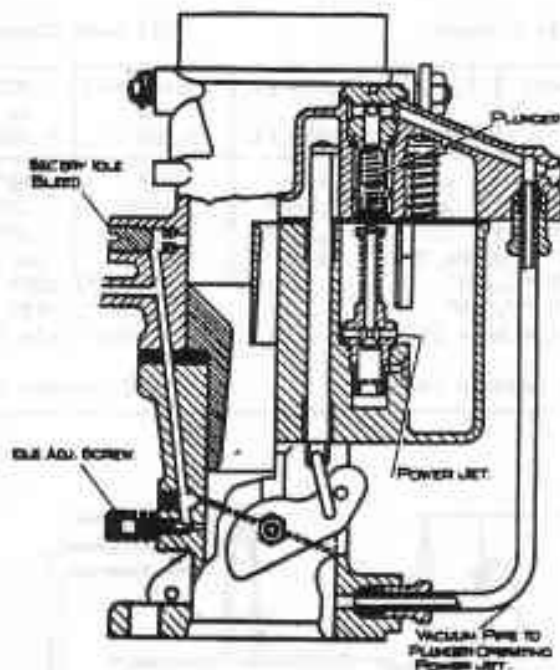

FIG. C19. CARBURETTOR SECTION.
- (2) Adjust the idle adjustment screw (Fig.C19) to give the most even running. Turning the screw IN weakens the mixture, and turning the screw OUT enriches it. The approximate position is $1\frac{1}{2}$ turns back from the closed position. Operate screw with fingers only.